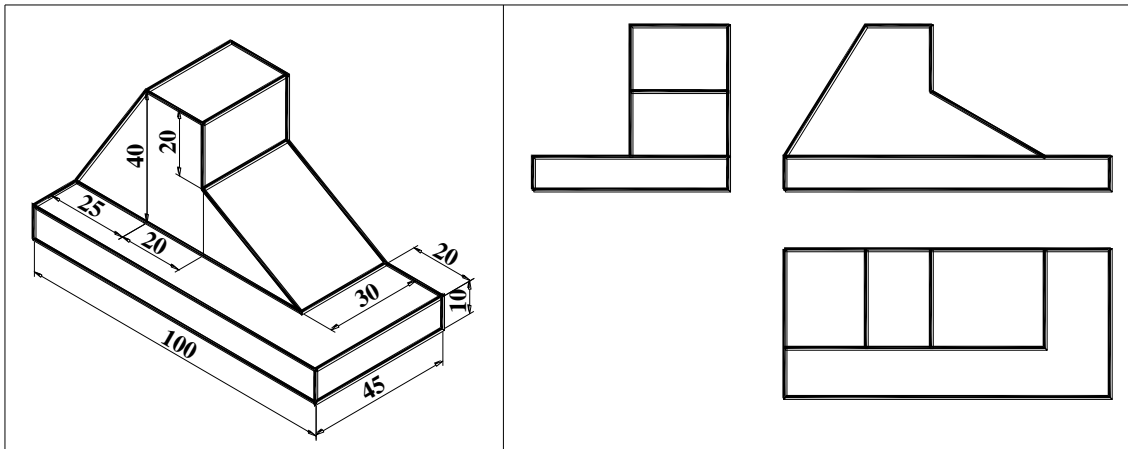

FIGURE T4.1
1. 1. FOR *FIGURE T4.1*, DIMENSION ITS ORTHOGRAPHIC VIEW BY ALIGNED SYSTEM OF DIMENSIONING.